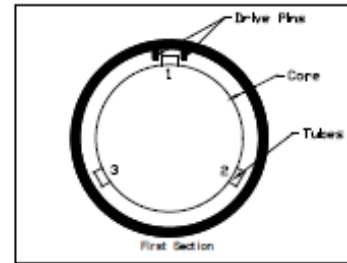

figure 1
4. Raise the sweeper and back away, set parking brake, shut down the prime mover and remove the ignition key, exit the prime mover and inspect the brush pattern. The brush pattern left in the dust should be 2-4 inches wide, running the length of the brush. (figure 1)
- a. Number the tubes on the core as 1,2 and 3 (figure 1).
- b. Slide the first section onto the core with the drive pins on either side of square stock 1. Make sure that the drive pins angle up (figure 1).